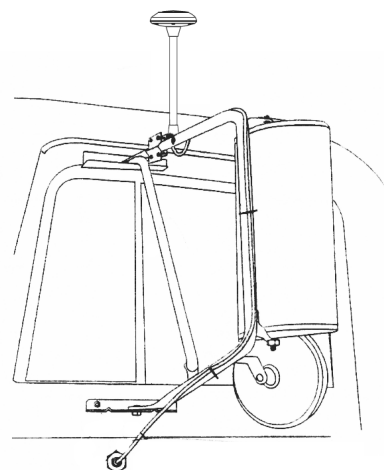

Figure 4- Mirror Mount Cable Routing
17. If you have an access hole and do not want the cable routing through the window vent route the cable through this hole. See Figure 4.